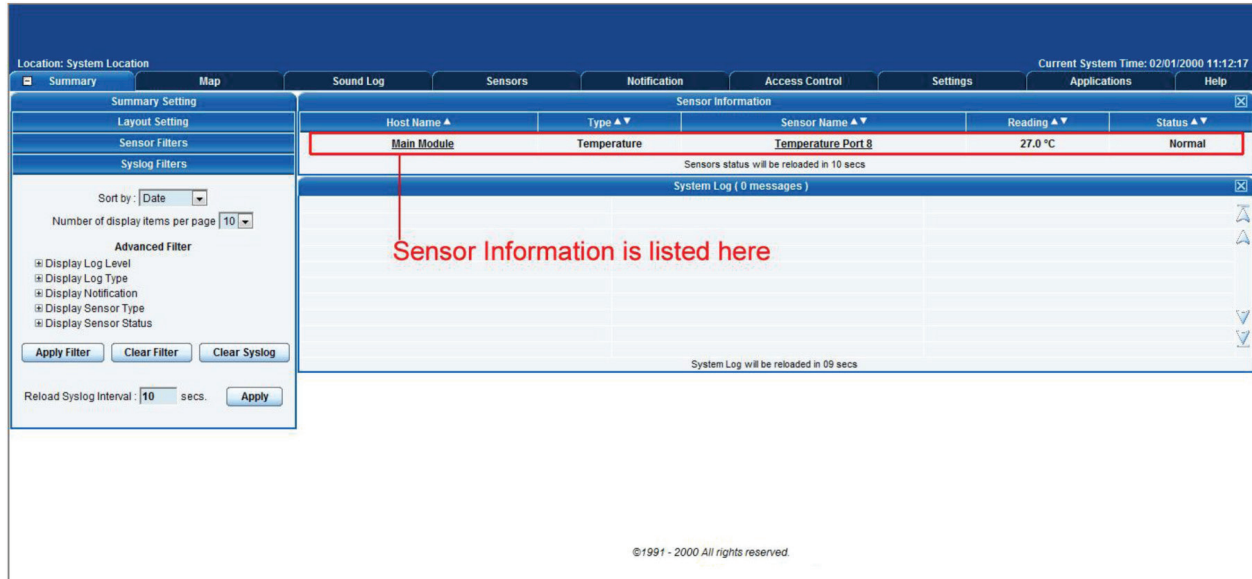
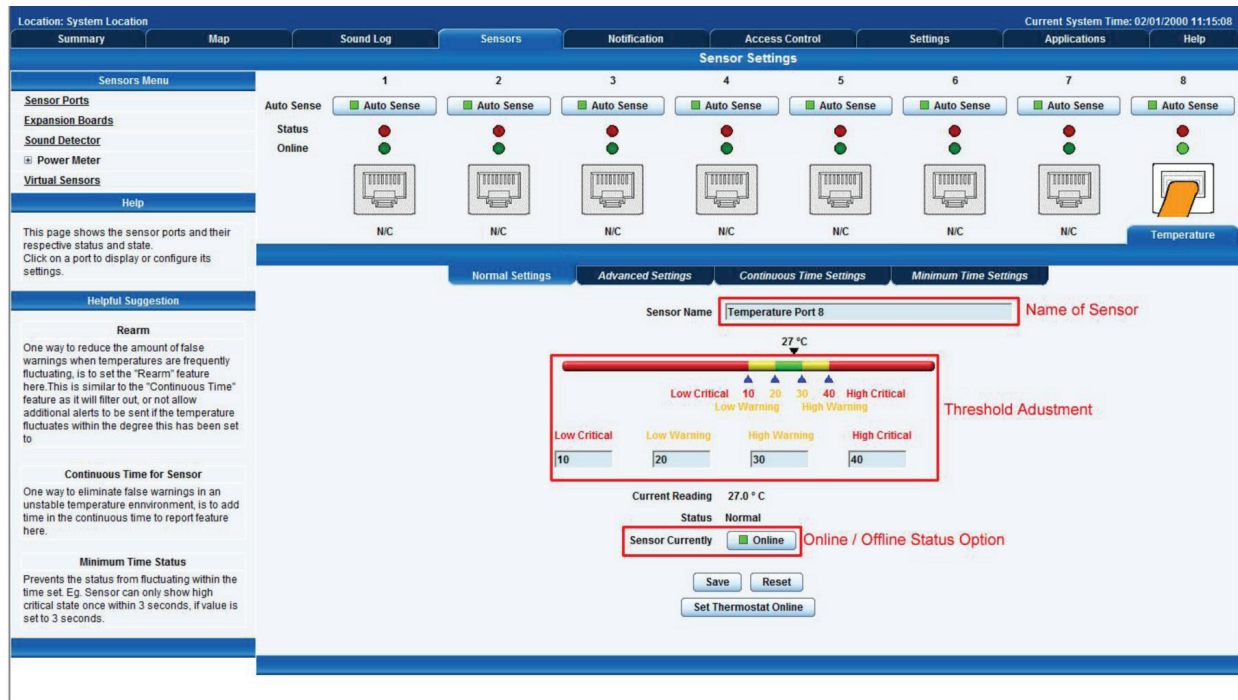
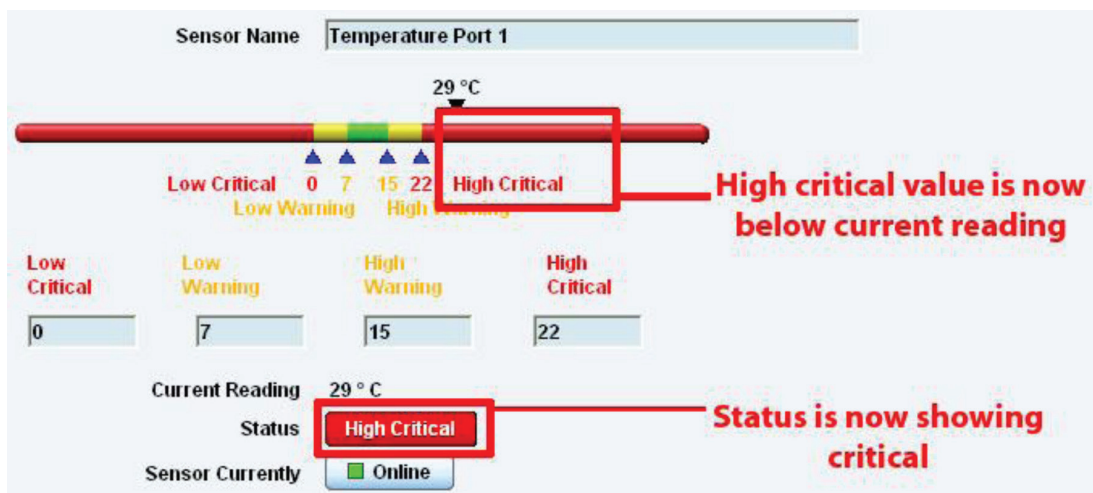

Figure 3-29. Summary page.
Figure 3-30. Sensors page.
Figure 3-31. High critical status shown.
- 2. Point your browser to the ServSensor’s IP address (the default is 192.168.0.100). Log in as the administrator using your administrator password (the default is “public”). You will then be taken to the summary page shown in Figure 3-29.
3. Click on the temperature sensor's name (indicated in Figure 3-29). This will bring you to Figure 3-30, the Sensors page.
From this page, you can carry out various operations as indicated above. You can also view the current status (normal, low critical, high critical, etc). In Figure 3-30, the sensor indicates a temperature of 27° C and a status of Normal. If you click on the blue marker arrow next to the "Threshold adjustment" label (shown in Figure 3-30), you can drag this marker to re-configure the thresholds. After dragging the marker, click "Save." In Figure 3-31, you can see that this marker has been moved to make a new threshold, and the sensor status has changed along with it.